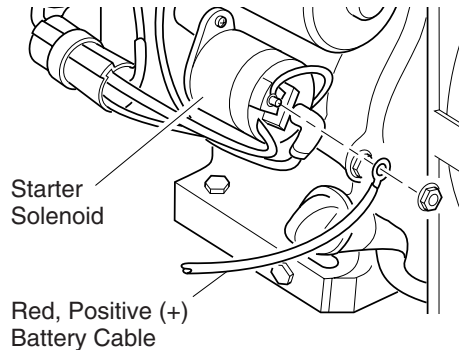

Figure 8 - Connecting Red, Positive (+) Battery Cable to Engine Starter Solenoid (Model MGH7000C Shown)
1. Attach the red, positive (+) battery cable to the starter solenoid on engine (see Figure 8). The starter solenoid is located directly above the starter on Model MGH10000. This cable is factory installed.